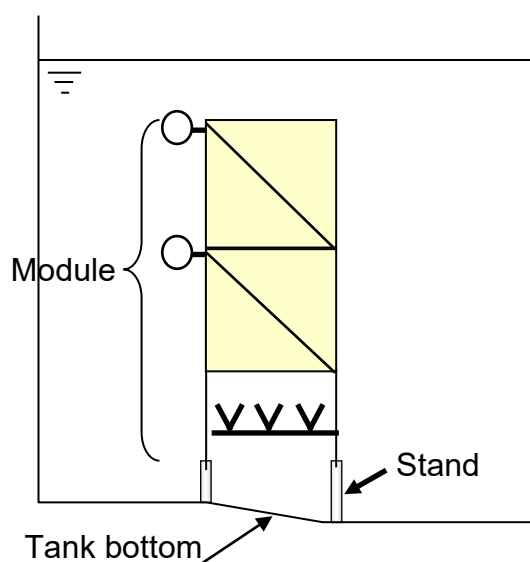

Fig.IV-6 Installation with Stands (side view)
- * Contact Toray in the case the existing tank floor is not level, If the existing tank floor is not level, it is recommended that stands be installed as shown in Fig.IV-6.